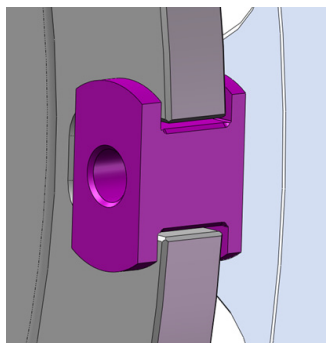

Fig 1: Bobbin to bell
Step 2: Locate bobbins into bell slots and locate onto disc. (Fig 1.)